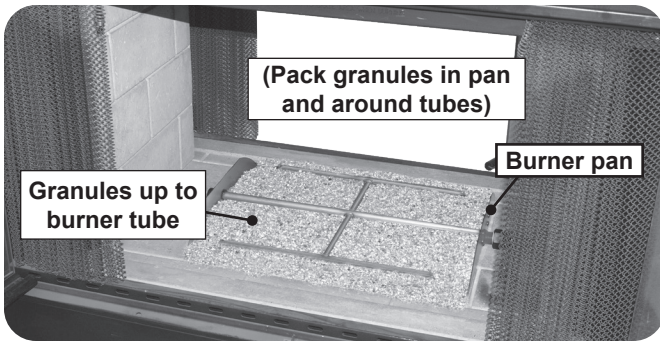
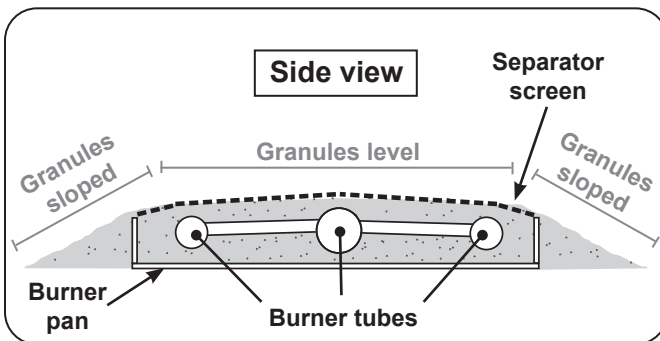

Fig. 8-1
Fig. 8-3
1. Pour the granules into the pan until they just cover the burner tubes. Then pack the granules in the pan and around the burner tubes. Add additional granules as needed to end with the granules **level** with the top of the burner tubes. Slope the granules in the front portions of the pan. See Fig. 8-1 and Fig. 8-3.